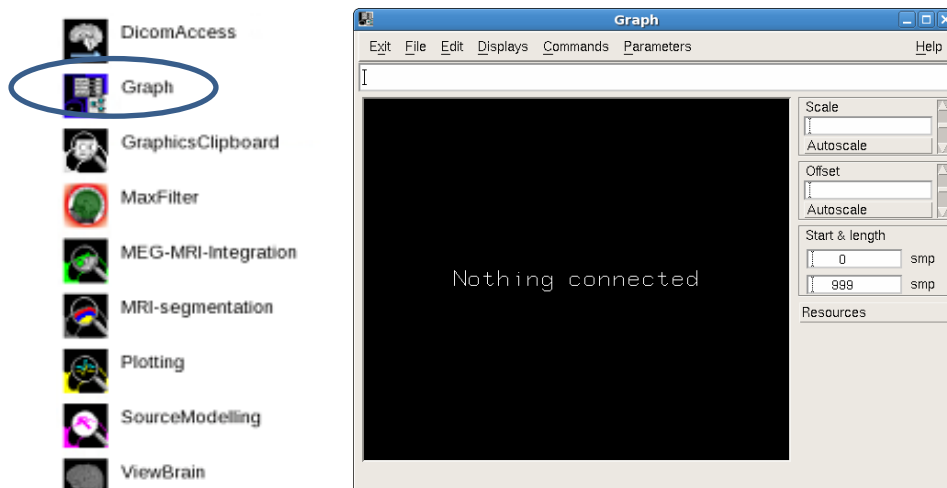

Figure 45: *Graph* launching and initial display.
- Open Applications -> Neuromag -> *Graph* (Figure 45). The *Graph* display shows text 'Nothing connected'.